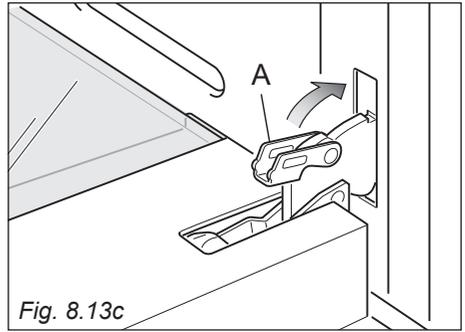

Fig. 8.13c
4. Fully close the levers "A" on the left and right hinges, as shown in the figure 8.13c.